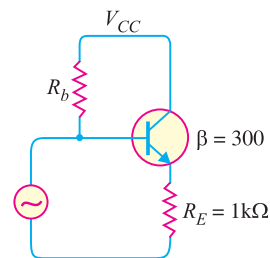

Fig. 13.31
7. In Fig. 13.31, if input and output impedances without feedback are $2\text{ M}\Omega$ and $500\text{ }\Omega$ respectively, find their values after negative voltage feedback. [302M Ω ; 1.6 Ω]